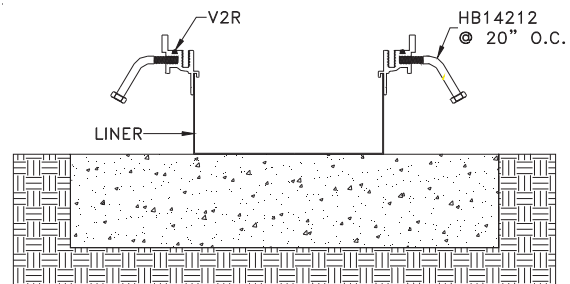

Figure 4
STEP 5. Remove the cover plate from the frame, see Figure 4.